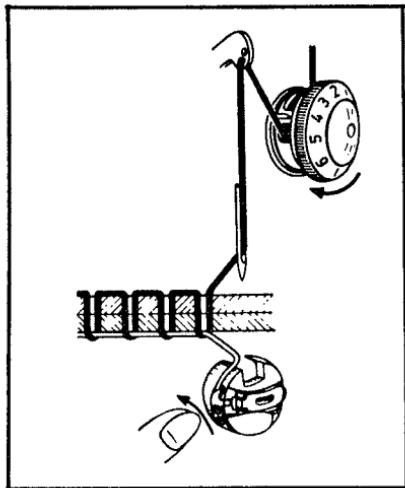

Fig. 1-9. Tension regulator of the tensioning circuit.
- the bobbin tension spring (Figs. 1-9 through 1-11).
The Tension Regulator. The tension regulator (Fig. 1-9) is mounted on the front of the machine head and easily accessible to